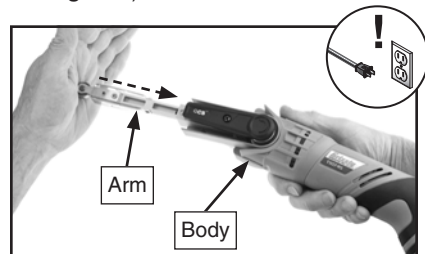

Figure 4. Locking arm.
3. While holding sander body, push arm back until it clicks and locks (see **Figure 4**).